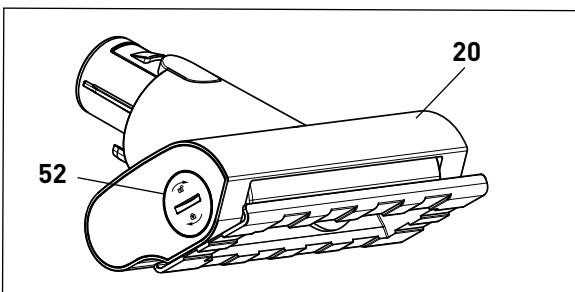

Figure 24
### Changing the Brush Roller on the Mini Power Brush - Figures 24 & 25
**Figures 24 & 25** - Unlock the right-hand cover (52) with a coin (or something similar) and hold the brush roller bristles to push the brush roller out with the end cover attached. Remove the end cover (52) from the brush roller (53) and remove any hair or strings.